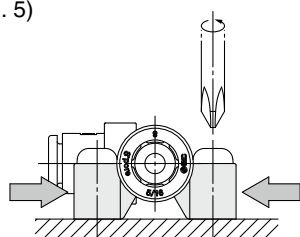

Fig. 5
- 3) When mounting the product with the standard bracket, tighten the screw while holding both sides of the bracket. If the fit of the bracket is loose, the ejector may move after tightening the screws. (Fig. 5)